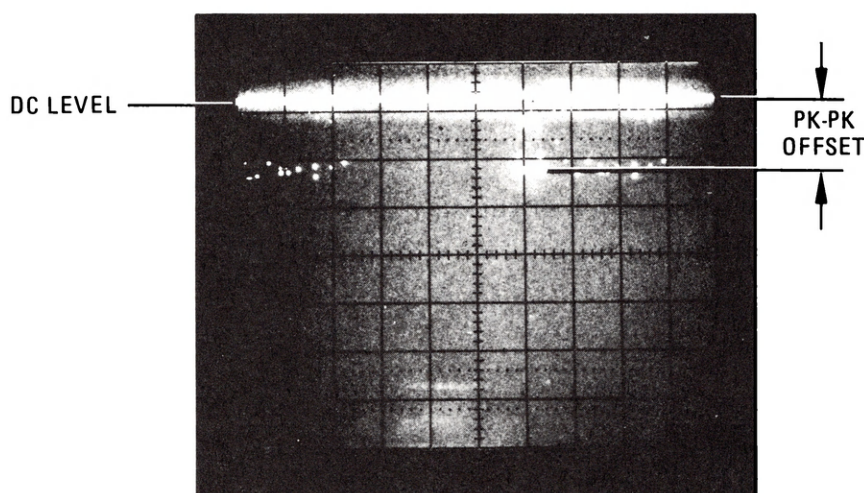

Figure 5-17. FOCUS GAIN Adjustment Waveform
5. Oscilloscope display should be similar to that shown in Figure 5-17.